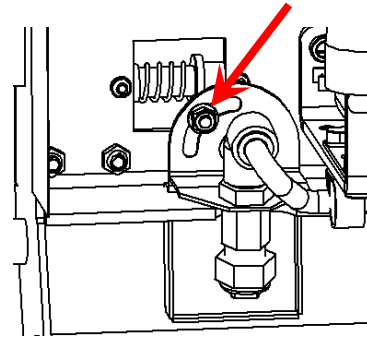

Figure 4-14
2. Loosen the lock nut in the spray head's adjustment slot (see Figure 4-14).